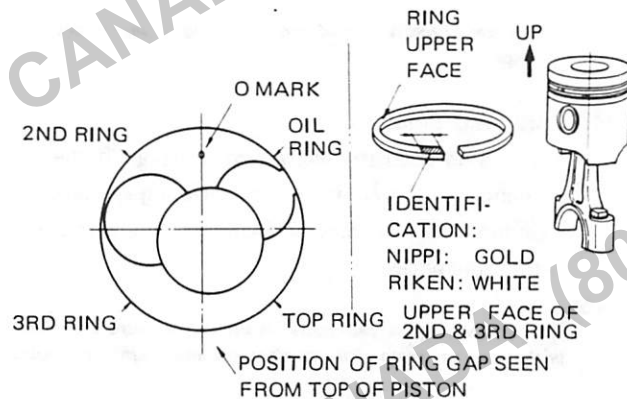

Fig. 3-4-27 Marks and ring joint position
3) As shown in Fig. 3-4-27, mount piston so that the mark "O" on the piston head is on the tappet chamber side.